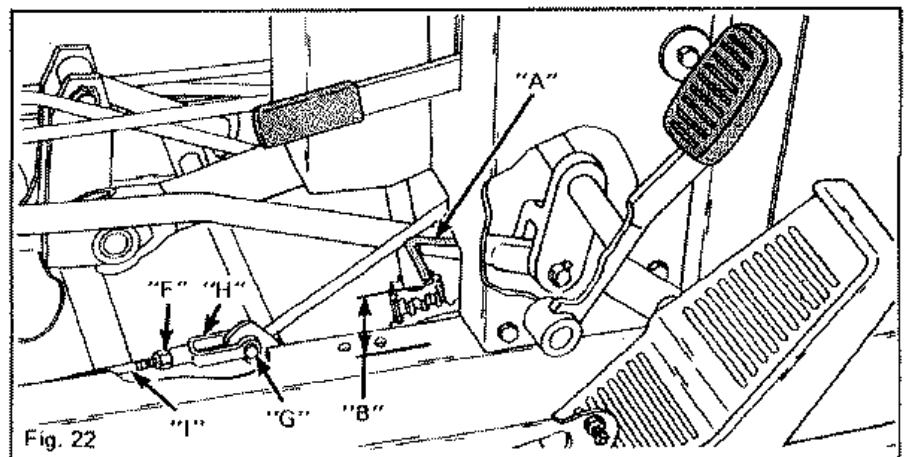
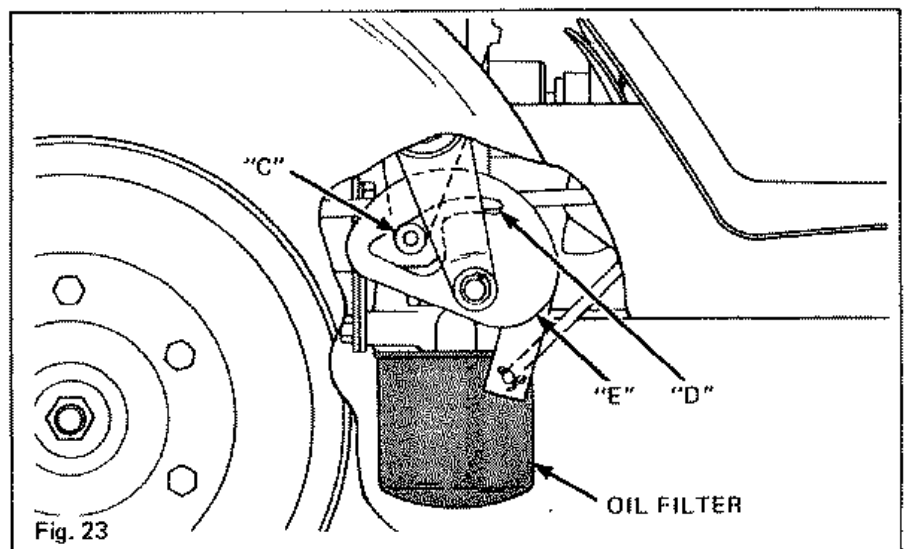

Fig. 22
Fig. 23
2. Depress the foot brake. When rod "A" Figure 22 is 1 to 1-1/4 inches (2.5-3.2cm) from the top of frame rail at "B", pin "C" Figure 23 should just be in slot "D" of lever "E" as shown.
3. If necessary to adjust, loosen hex nut "F" Figure 22. Remove pin "G" and turn clevis "H" either clockwise or counter-clockwise on rod "I" to obtain proper adjustment.
Hydrostatic Oil Filter Figure 23, must be changed as called out in the Maintenance Chart on page 23.